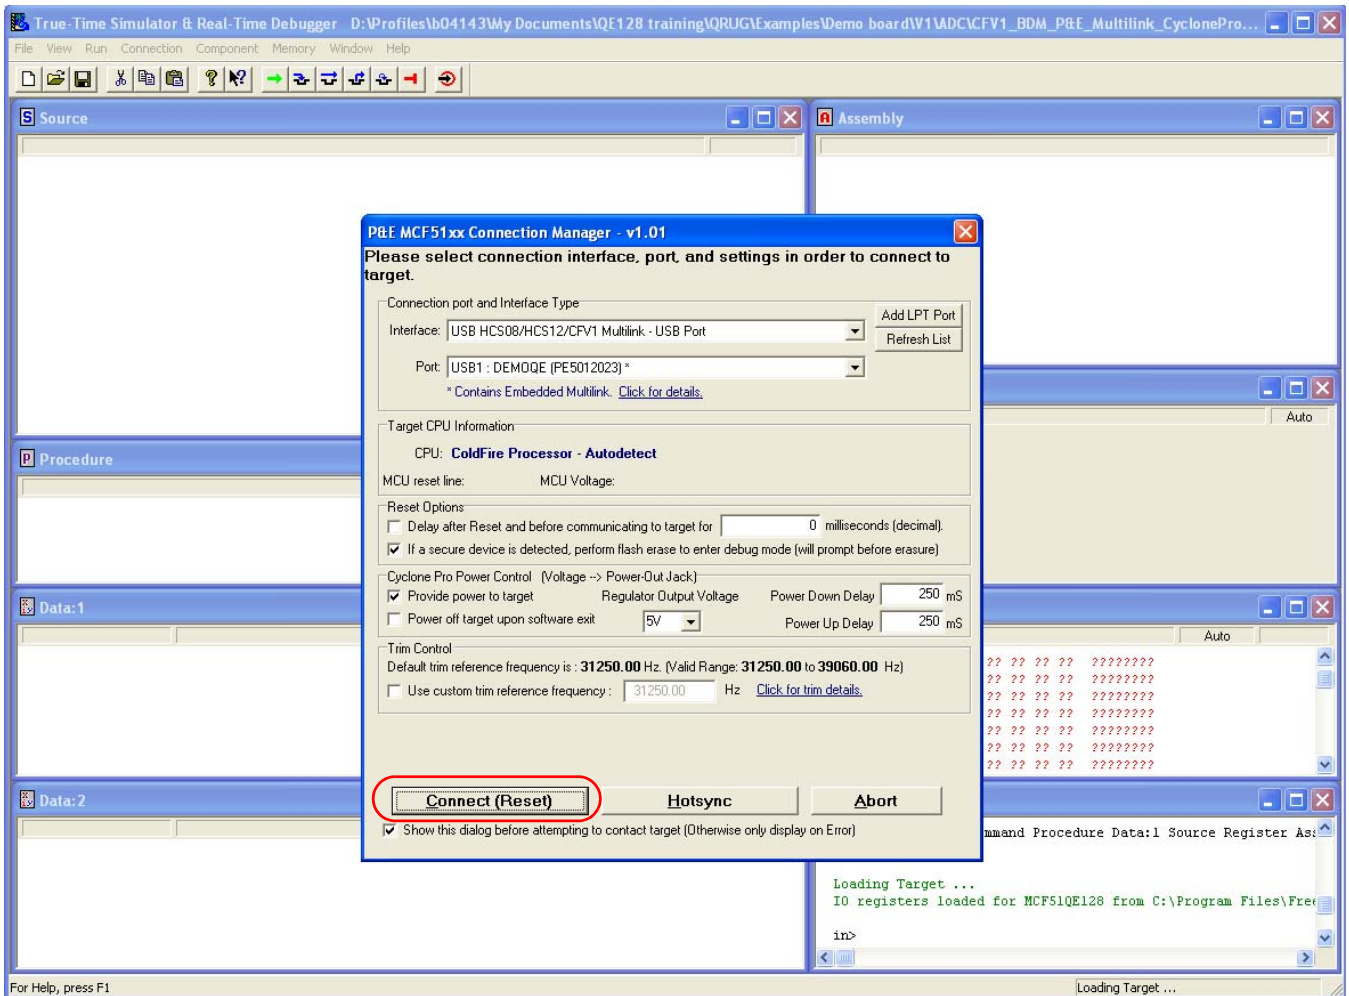

Figure 3-4. Connect Option
10. After the debug command is executed a window pops up (see Figure 3-4). Click on the Connect option.